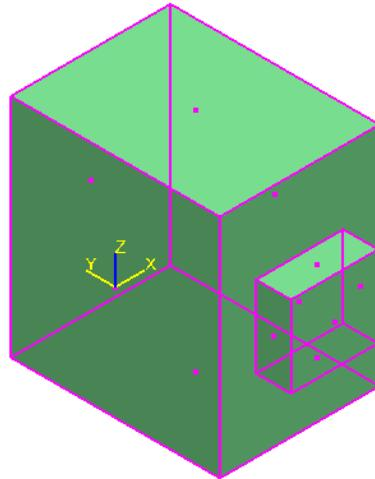

Figure 51: The Placed Term Box
22. Click in the graphic view to place the shape in the model. The designed equipment is shown in Figure 51.